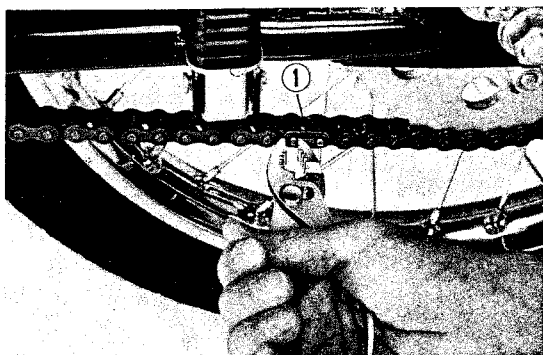

Fig. 110 Drive chain disassembly
- 3) Unfasten the drive chain link and disconnect the chain. (Fig. 110)